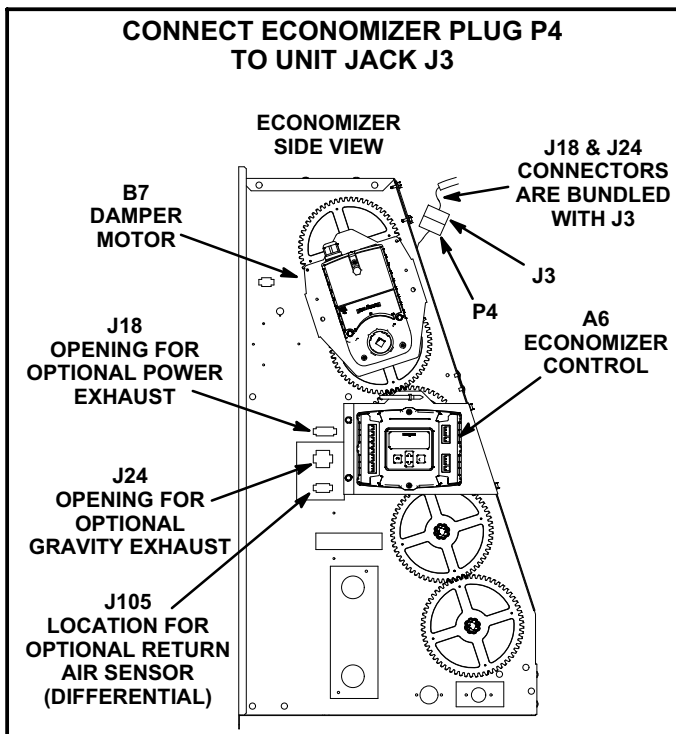

FIGURE 5
- 7- Connect economizer plug P4 to unit jack J3 hanging near the top of the filter section. See figure 5.
- 8- *Optional Power and Gravity Exhaust -* Locate J18 and J24 connectors bundled with J3. Insert connectors in openings shown in figure 5.